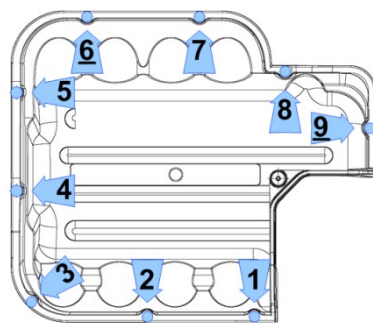

Figure 8 – Top Cover Torque Sequence
18. Place the Top Cover and secure it with the M5x15 fasteners according to the following sequence. Follow the sequence twice. The first time, only tighten the fasteners half way down to allow for adjustments. Torque to 13 in.lb. on the second pass. Refer to Figure 8 (Top Cover Torque Sequence).